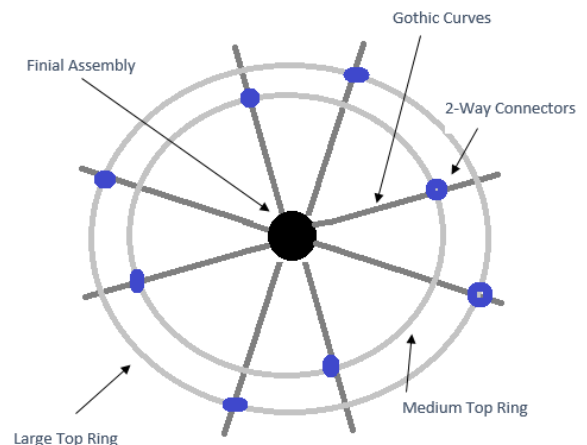

Figure 2: Attach the Top Rings
8. Referring to Figure 2, push the medium top ring pieces through the 2-Way connectors on alternate gothic curves, ensure that the rings are on the outside of the Gothic Curves. Do not tighten the connectors.